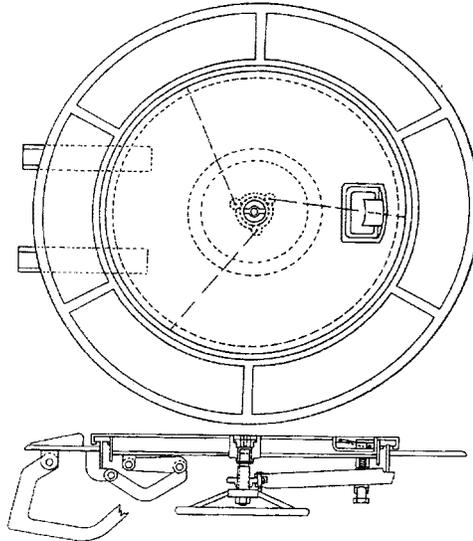
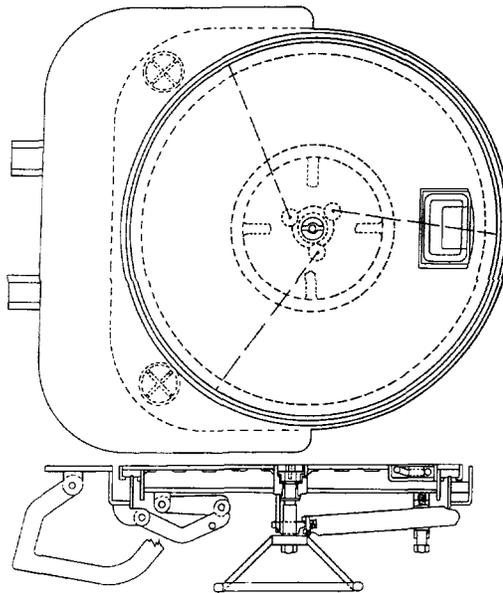

Figure 1-10. Flush Watertight Scuttle (6,000 Lb Wheel Load)
Figure 1-11. Ramped Low Profile Scuttle (6,000 Lb Wheel Load)
- j. Flush Watertight Scuttles (6,000 Lb Wheel Load) and Ramped Low Profile Scuttles (6,000 Lb Wheel Load). (See figure 1-10 and figure 1-11.) These types of scuttles are installed in areas such as flight decks, hangar decks, cargo decks, passageways, or areas of high traffic that may be subject to wheel loads of up to 6,000 lbs (maximum). For exterior installations, flush scuttles are to be provided with trough drains. Ramped low profile scuttles are installed in areas where a minimum height ramped scuttle would not be detrimental to shipboard vehicular traffic or pose a tripping hazard.